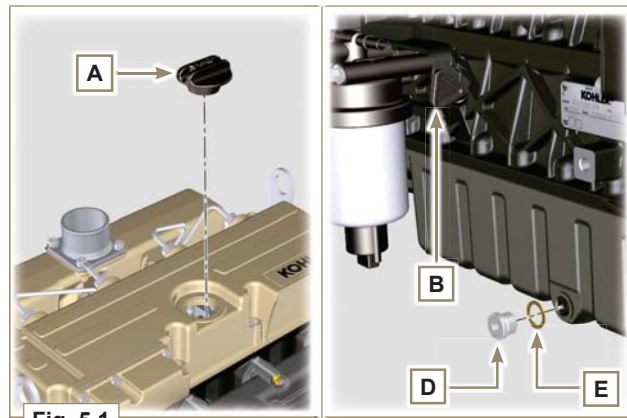

Fig. 5.1
- 1 - Loosen the oil filler cap **A** (Fig. 5.1).